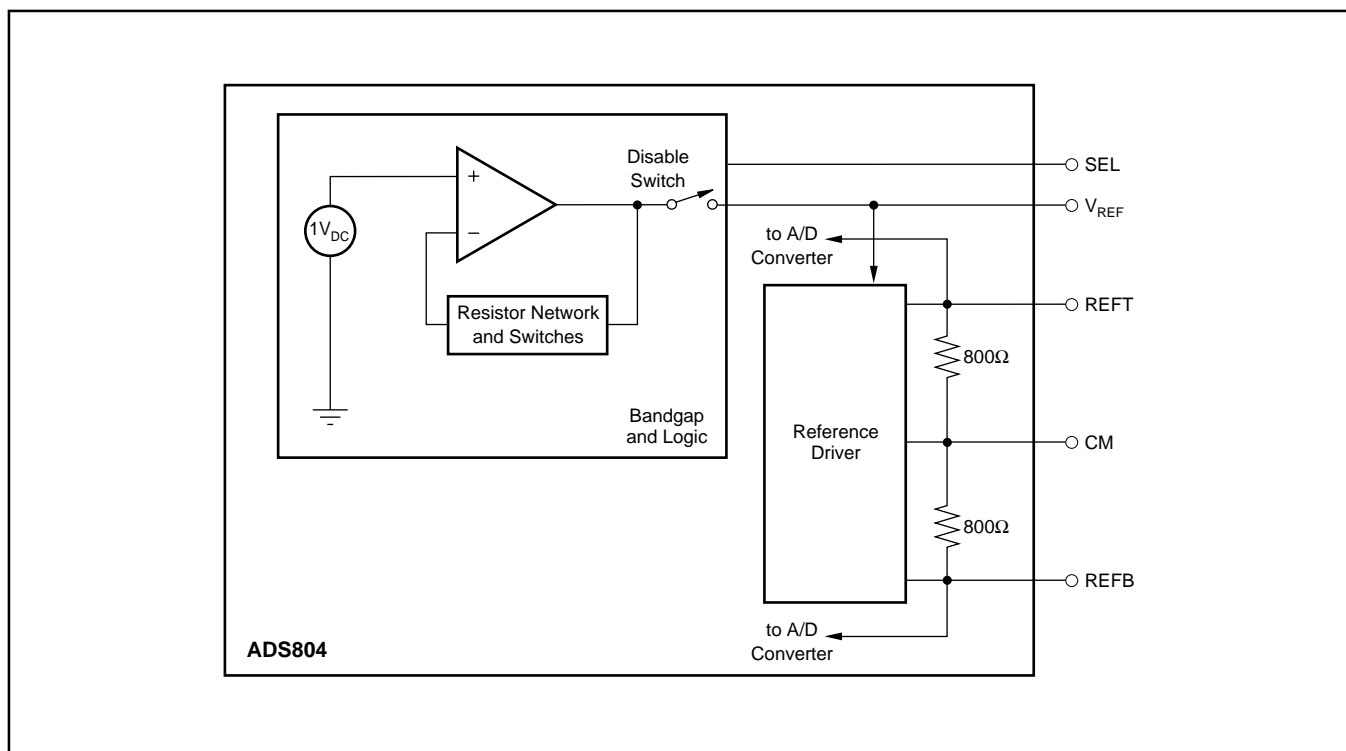

FIGURE 4. Equivalent Reference Circuit.
A simple model of the internal reference circuit is shown in Figure 4. The internal blocks are a 1V-bandgap voltage reference, buffer, the resistive reference ladder, and the drivers for the top and bottom reference which supply the necessary current to the internal nodes. As shown, the output of the buffer appears at the  $V_{REF}$  pin. The full-scale input span of the ADS804 is determined by the voltage at  $V_{REF}$ , according to equation (1):